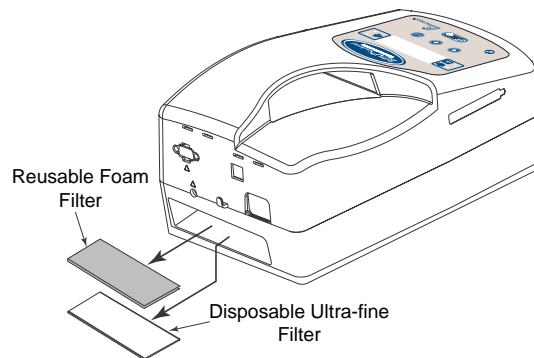

Figure 7-2 Removing the Air Filters
Step 3 Remove the filters from the enclosure as shown in Figure 7-2. The top filter is the reusable gray foam filter. The bottom filter is the optional disposable white ultra-fine filter.